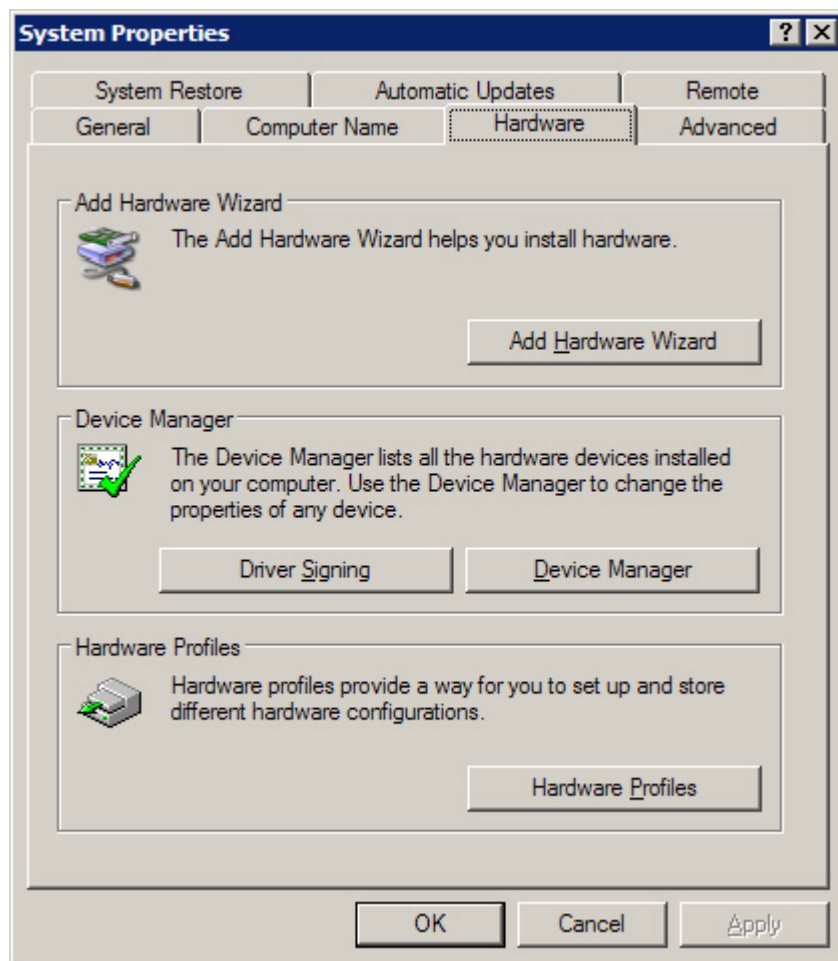

Figure 10. Hardware tab
2. Click the **Hardware** tab (see Figure 10).